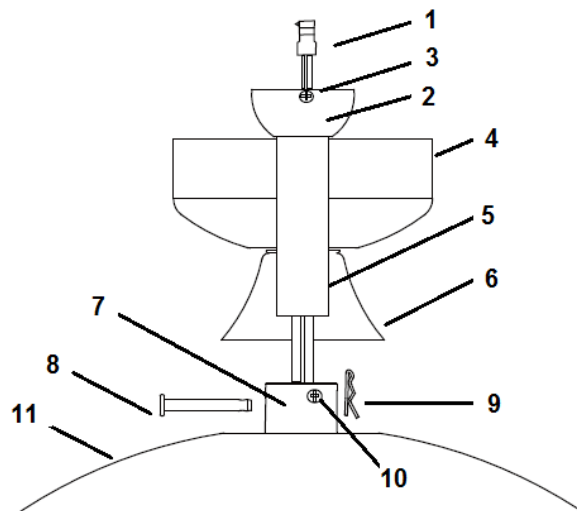

Fig. 4
- 1) Feed the down rod (5) through the canopy (4) and the bolt and pin cover (6).
- 2) Remove the ball joint (2) by loosening the set screw (3), insert the motor wires (1) through the down rod then secure the ball joint back to the down rod.
- 3) Insert the down rod to the coupling (7), line up the coupling holes with the down rod holes and insert the bolt (8). Then insert the pin (9) to the end of the bolt.
- 4) Finally secure the down rod and coupling by tightening the two set screws (10) on the coupling.
- Fig. 4